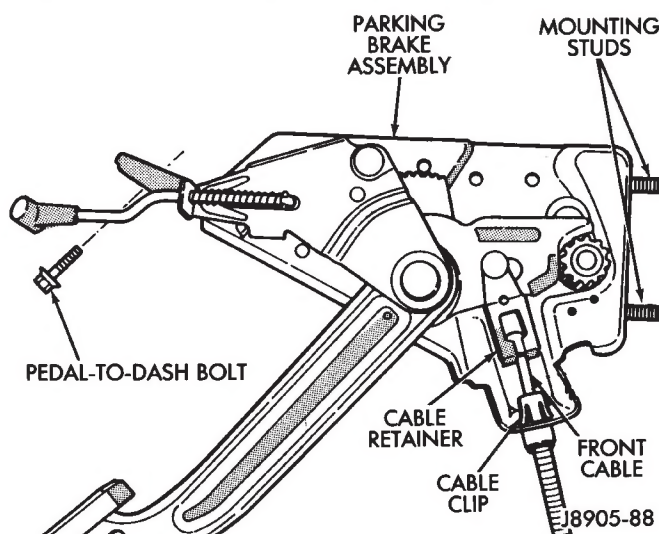

Fig. 18 Park Brake Assembly - YJ
- (1) Remove nuts that attach the park brake assembly mounting studs to the dash panel. The nuts are accessible from the engine compartment (Fig. 18).